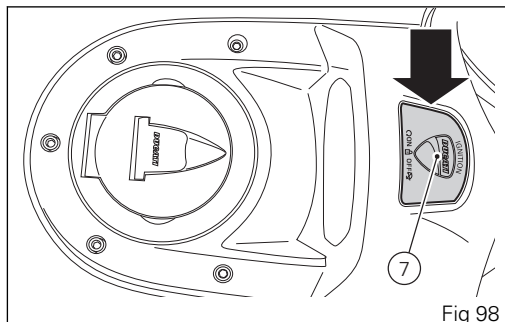
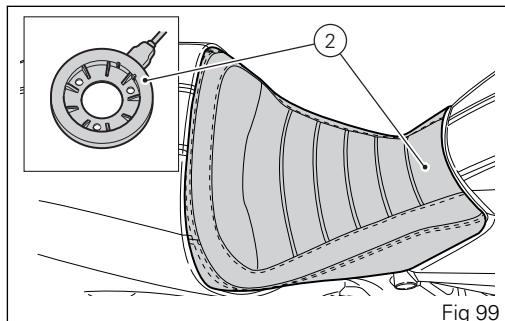

Fig 98
Fig 99
(Fig 98) indicates the position of the Hands Free block (7) and (Fig 99) indicates the position of the antenna (2).